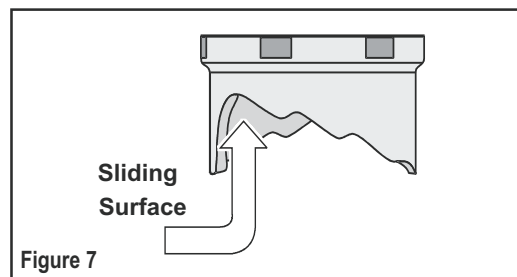

Figure 7
- Rear ride height can be adjusted by turning the adjusting cam to a higher setting. This is also used to stiffen the shock if excessive bottoming occurs while riding the bike. Apply a small amount of the provided lubricant to the sliding surface of the cam and use the spanner wrench to rotate the cam. **Figure 7**